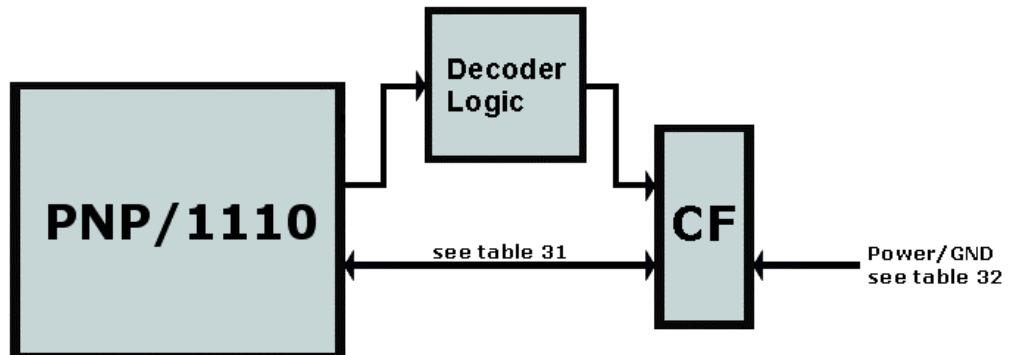
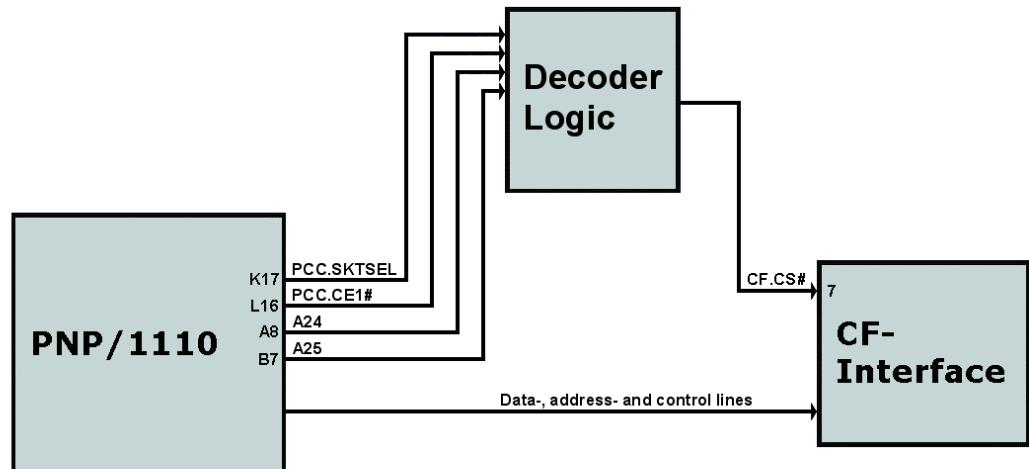

Figure 50: PNP/1110 CF-Interface Connection
Figure 51: PNP/1110 Decoder Logic Connection
The PNP/1110 offers the possibility to connect a Compact Flash (CF) adapter to realize different system expansions. Figure 50 shows a general diagram how to connect a CF-interface onto the PNP/1110.
Some pins of the PNP/1110 have to be connected with a special decoder logic shown in figure 50. The decoder logic connections and its characteristic will be described in detail by figure 51 and table 33. Please note, that a connection from the decoder output to pin 7 of the CF-interface is needed.
The PNP/1110 uses a 169-pin PGA socket (Socket 3) as mechanical base. The figure 50 shows the dimensions. All length dimensions have a tolerance of 0.5 mm.